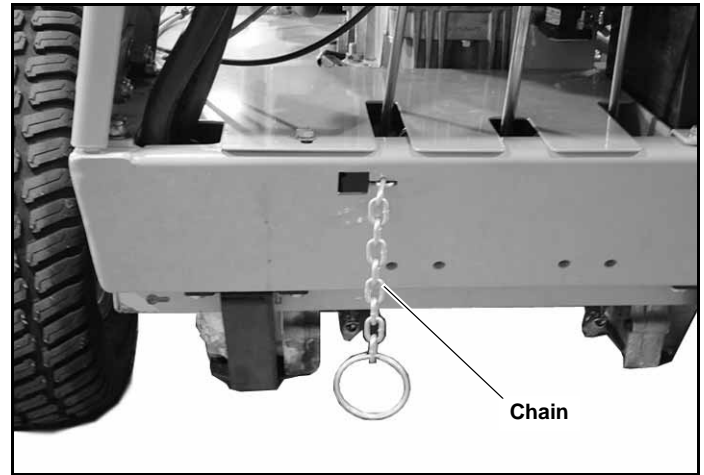

Figure 4-5
**To disengage** the pump clutch, **pull the chain** (Figure 4-5) until the tension is released from the pump drive belt and latch in the slot. Figure 4-5